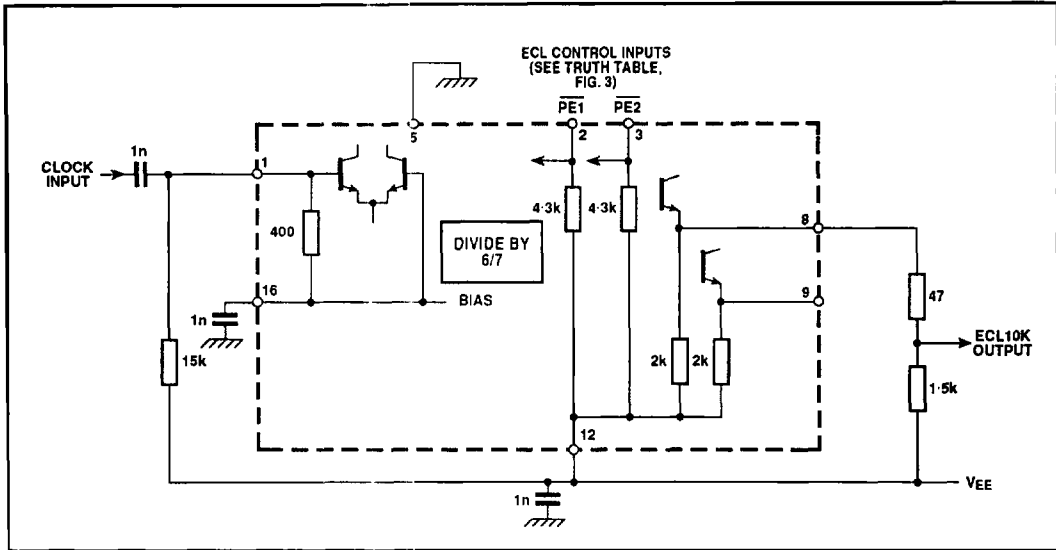

Fig. 7 Typical application circuit showing interfacing
4. The Q and  $\bar{Q}$  outputs are compatible with ECLII but can be interfaced to ECL10K as shown in Fig. 7. There is an internal circuit equivalent to a load of 2kΩ at each output.